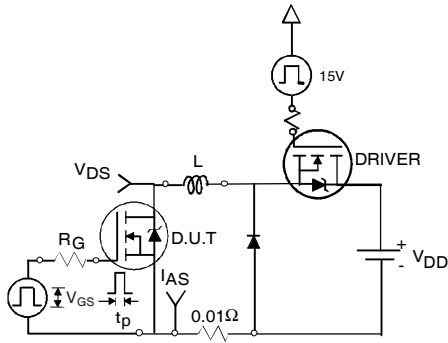

Fig 12a. Unclamped Inductive Test Circuit
- ③ $I_{SD} \leq 104A$, $di/dt \leq 240A/\mu s$, $V_{DD} \leq V_{(BR)DSS}$, $T_J \leq 175^\circ\text{C}$
- ④ Pulse width $\leq 400\mu s$; duty cycle $\leq 2\%$.
- ⑤ $C_{oss\ eff.}$ is a fixed capacitance that gives the same charging time as C_{oss} while V_{DS} is rising from 0 to 80% V_{DSS} .
- ⑥ Limited by T_{Jmax} , see Fig.12a, 12b, 15, 16 for typical repetitive avalanche performance.
- ⑦ This value determined from sample failure population, starting $T_J = 25^\circ\text{C}$, $L = 0.08mH$, $R_G = 25\ \Omega$, $I_{AS} = 104A$.
- ⑧ R_{θ} is measured at T_J of approximately 90°C .
3. Equation below based on circuit and waveforms shown in Figures 12a, 12b.